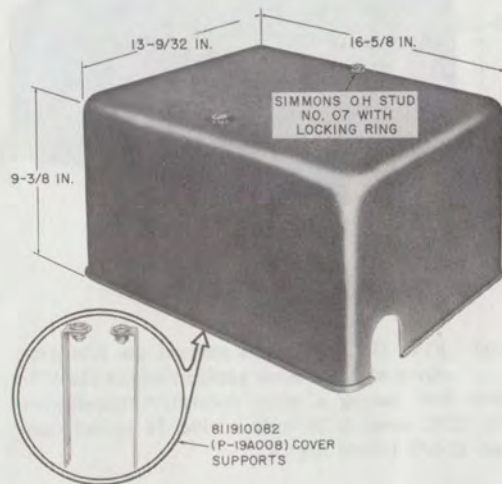

Fig. 35—116A Cover
8.01 The 116A cover (Fig. 35) is designed to enclose:
- One 31A (MD) apparatus mounting mounted on a 173B backboard